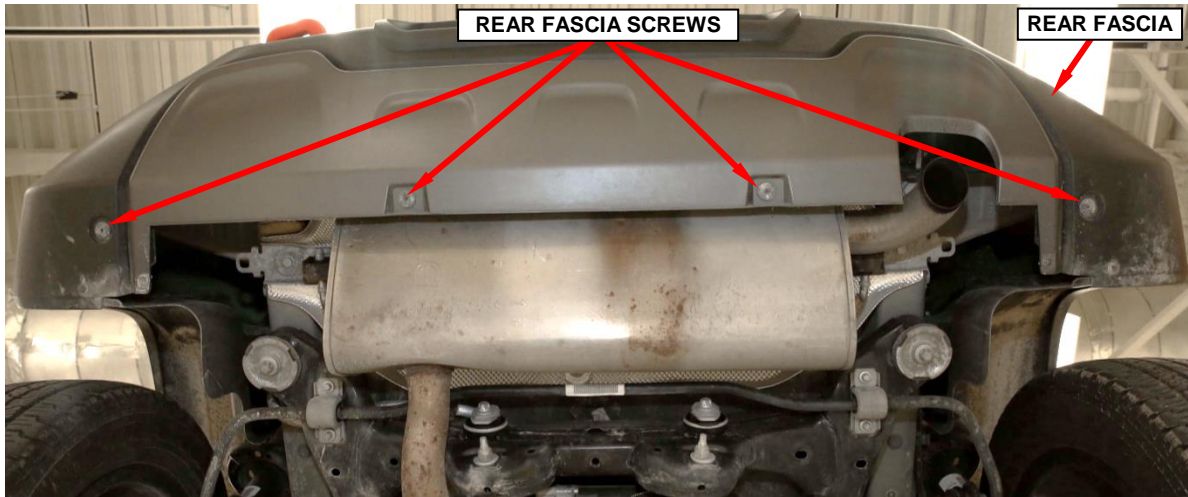

Figure 5 – Rear Fascia Lower Edge Screws
7. Remove the four screws from the lower edge of the rear fascia (Figure 5).
24. Install the four screws to the lower edge of the rear fascia. Tighten the screws securely (Figure 5).